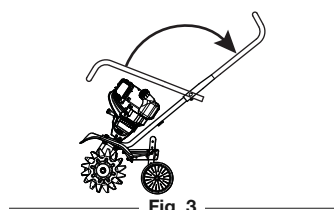

Fig. 3
2. With the unit upright, swing the handlebars up into the operating position (Fig. 3).